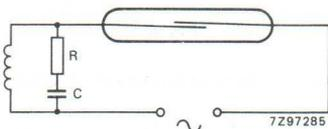

Fig. 3.
b) A.C. voltage: an RC-network parallel to the load or the reed switch, see Fig. 3.